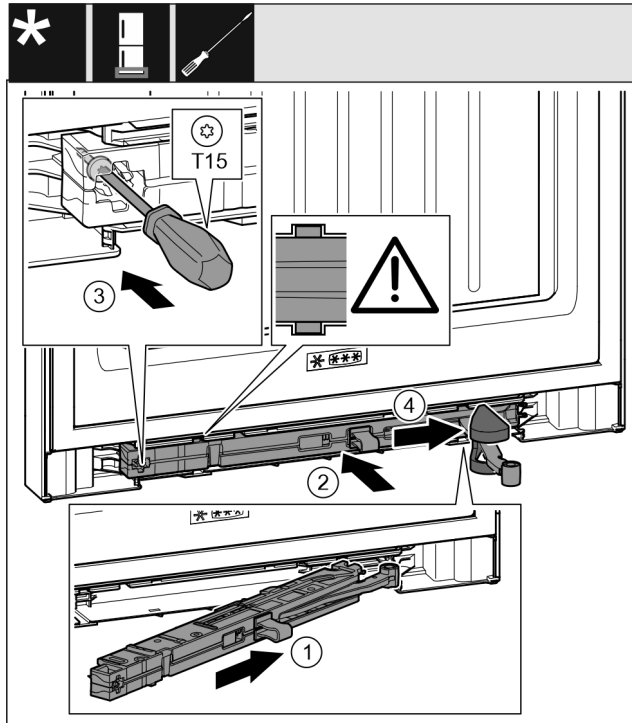

Fig. 43
- ▶ Slide the soft stop mechanism on the bearing bracket side at an angle into the recess as far as it will go. Fig. 43 (1)
- ▶ Slide the soft stop mechanism fully into the recess. Fig. 43 (2)
- ▶ Tighten the screw using a T15 screwdriver. Fig. 43 (3)
- ▶ Push the cover over the hinge. Fig. 43 (4)